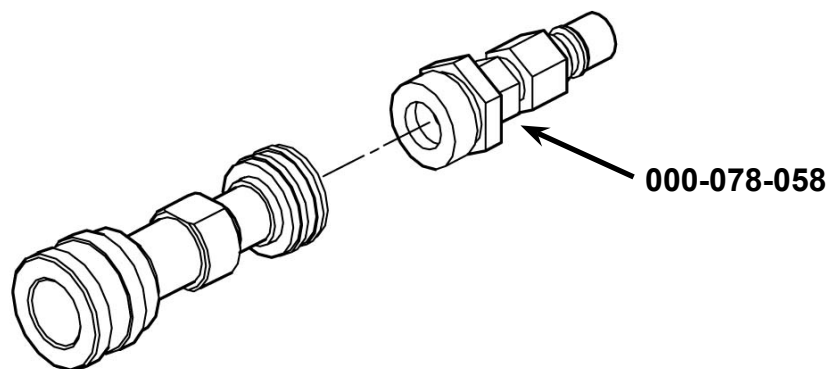

Figure 11. Recirculation Fitting
2. Attach the recirculation fitting provided in the kit to the garden hose quick connect (see Figure 11) and this combination to the front of the truckmount.